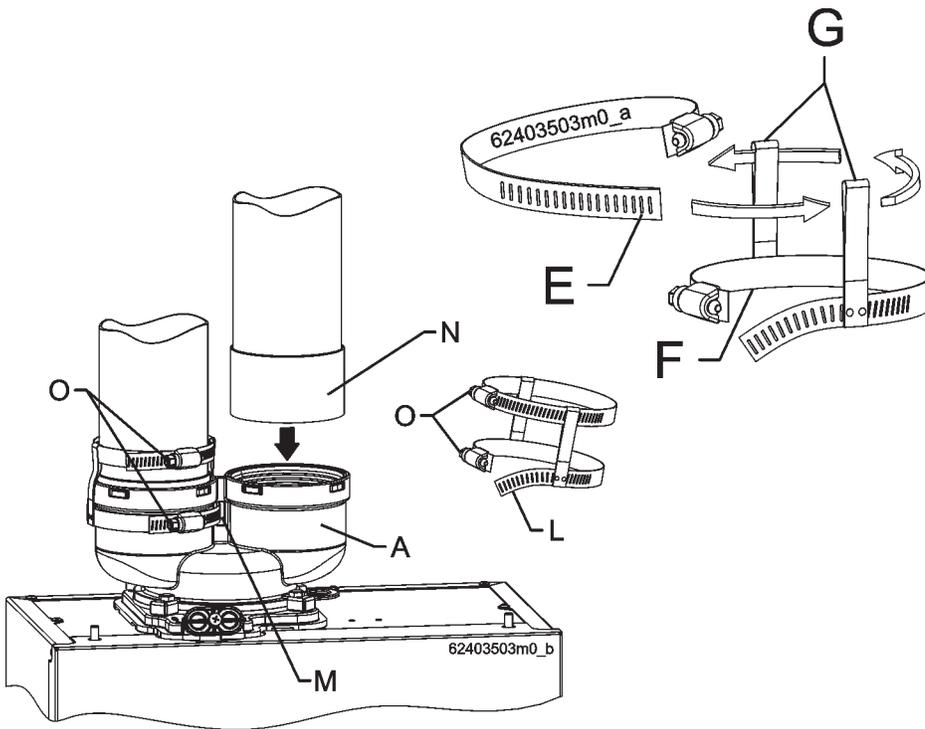

Figure 10-11 Polypropylene Venting connection
Pipes or elbows connected directly to the boiler, must be mechanically secure. Follow these instructions to connect pipes to the boiler (make reference to Figure 10-11):
5. Maintain clearances as shown in Figure 10-11 (**get references to "Mechanical draft vent terminal" only**). Also maintain the following: